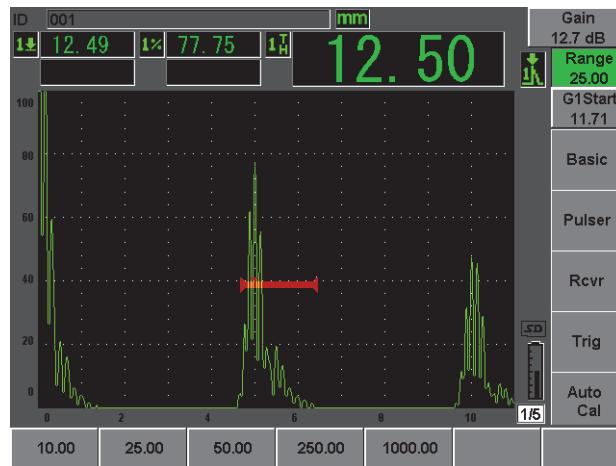

Figure 2-17 The Range value
16. Press **[RANGE]**, and then adjust the screen range to the desired setting (see Figure 2-17 on page 50).